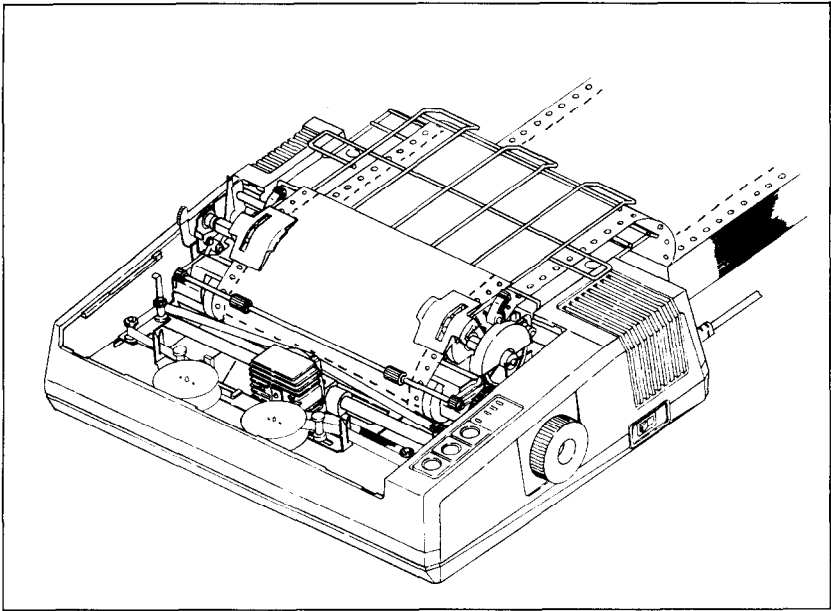

Figure 1-11. The perforation should be lined up with the top of the ribbon guide.
12. With the platen knob, roll the paper up or down until the correct "start-print" position is reached. You do this by lining up the horizontal perforation (where you tear apart individual sheets) with the top of the ribbon guide (as shown in Figure 1-11).
12. With the platen knob, roll the paper up or down until the correct "start-print" position is reached. This position is achieved by lining up the horizontal perforation with the top of the ribbon guide as shown in Figure 1-11.